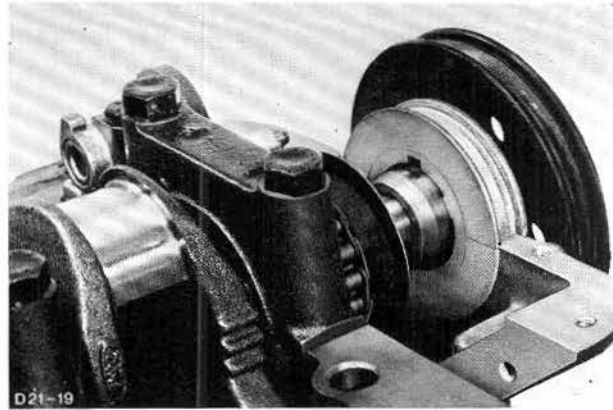

Fig. 49. Front cover with crankshaft pulley.
44. Slide on oil slinger and front cover equipped with a new oil seal (sealing lip lightly lubricated), with crankshaft pulley, Fig. 49.